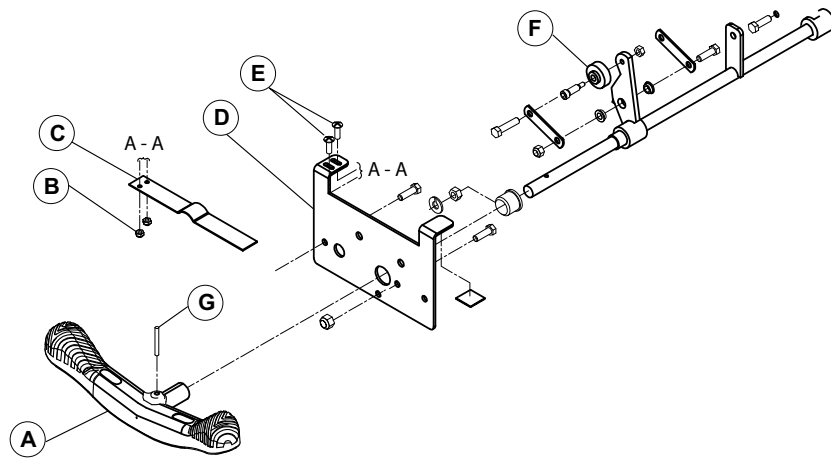

Figure 10 – Neutral guide plate replacement
6. Using a #2 Phillips screwdriver and a 3/8" combination wrench, remove the two locknuts (B) and two screws (E) that secure the neutral guide plate (C) to the left support plate (D) (Figure 10). Save the locknuts and screws.
2. Position the brake/steer pedal (A) to the neutral position (Figure 10).
3. Using a 3/16" punch and a hammer, remove the spring pin (G) that secures the pedal to the pedal shaft (Figure 10). Save the spring pin.